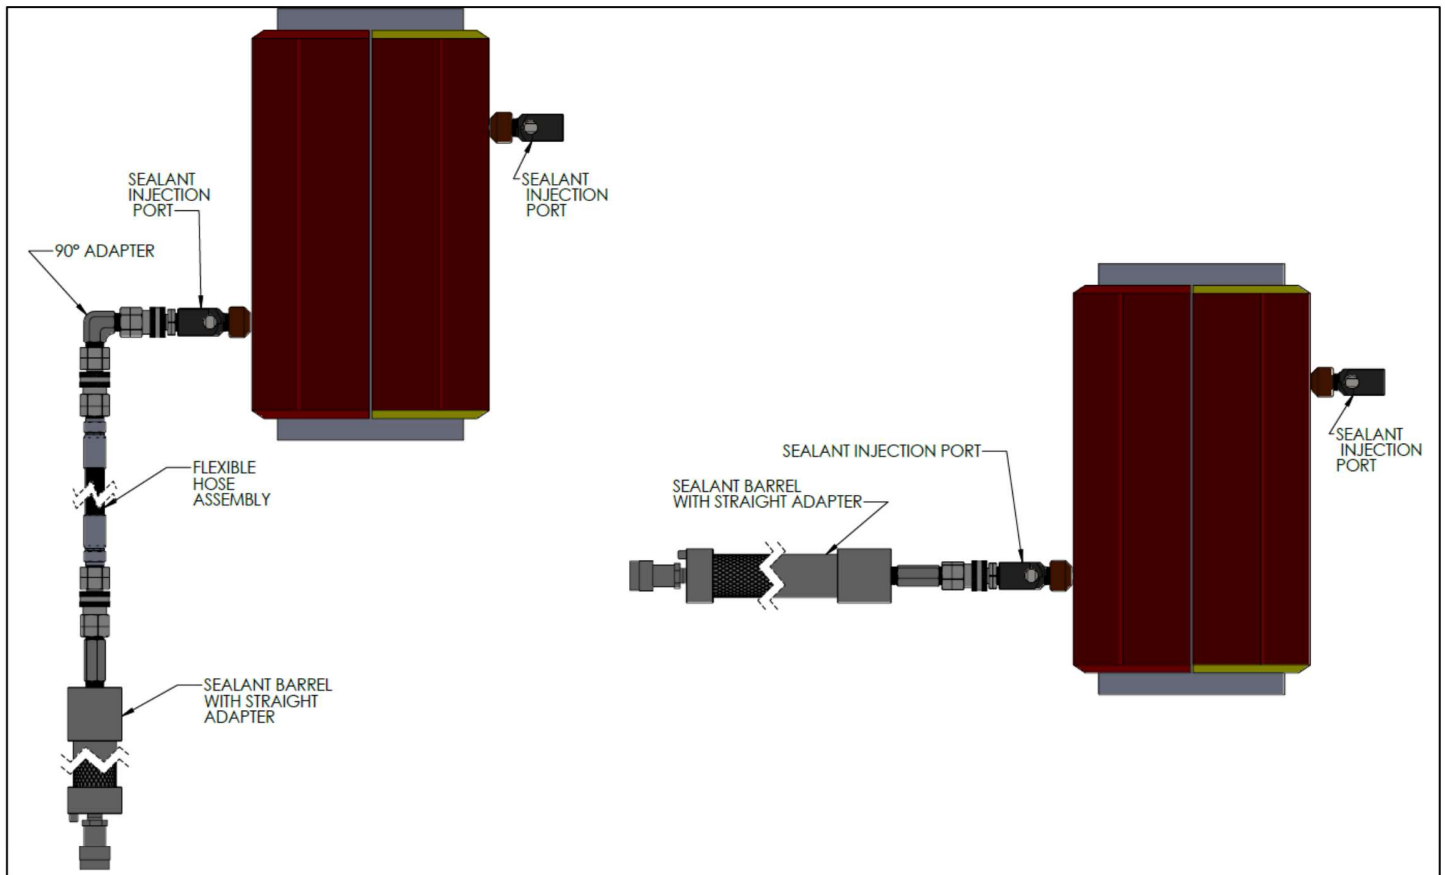

Figure 4
- 1.) Figure 4 above shows how to assemble the units after removing them from the case.